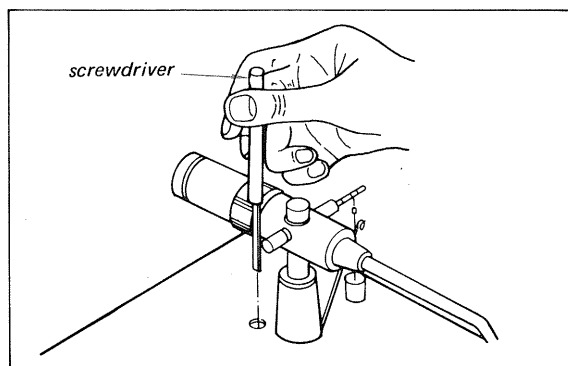

Fig. 3-8. Stylus set-down adjustment
1. The correct position for stylus set-down is 1.5 mm ($\frac{1}{16}$ inch) in from the edge of the record. The position is adjusted by turning the set-down adjustment screw through the opening located near the tone-arm base as shown in Fig. 3-8. This screw appears only when the tone-arm is placed on its rest. The adjustment is performed with any records on the turntable.